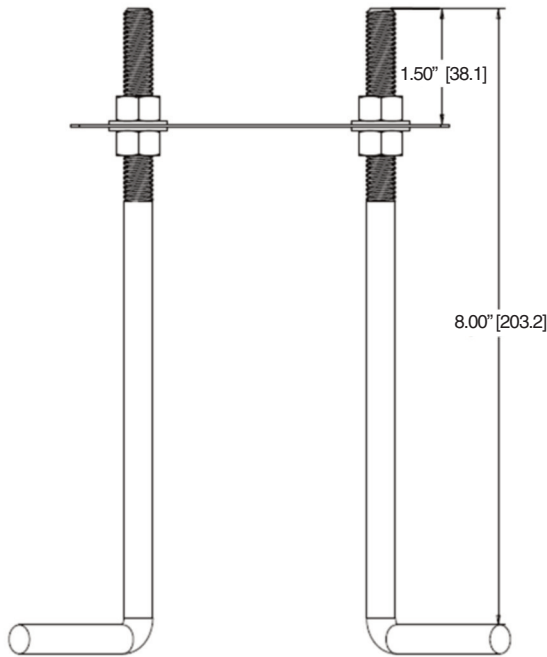

Fig. 2
- 2.) Ensure that there is 1.5" of threaded bolt extending out of the top side of the template (refer to **Fig. 2**).